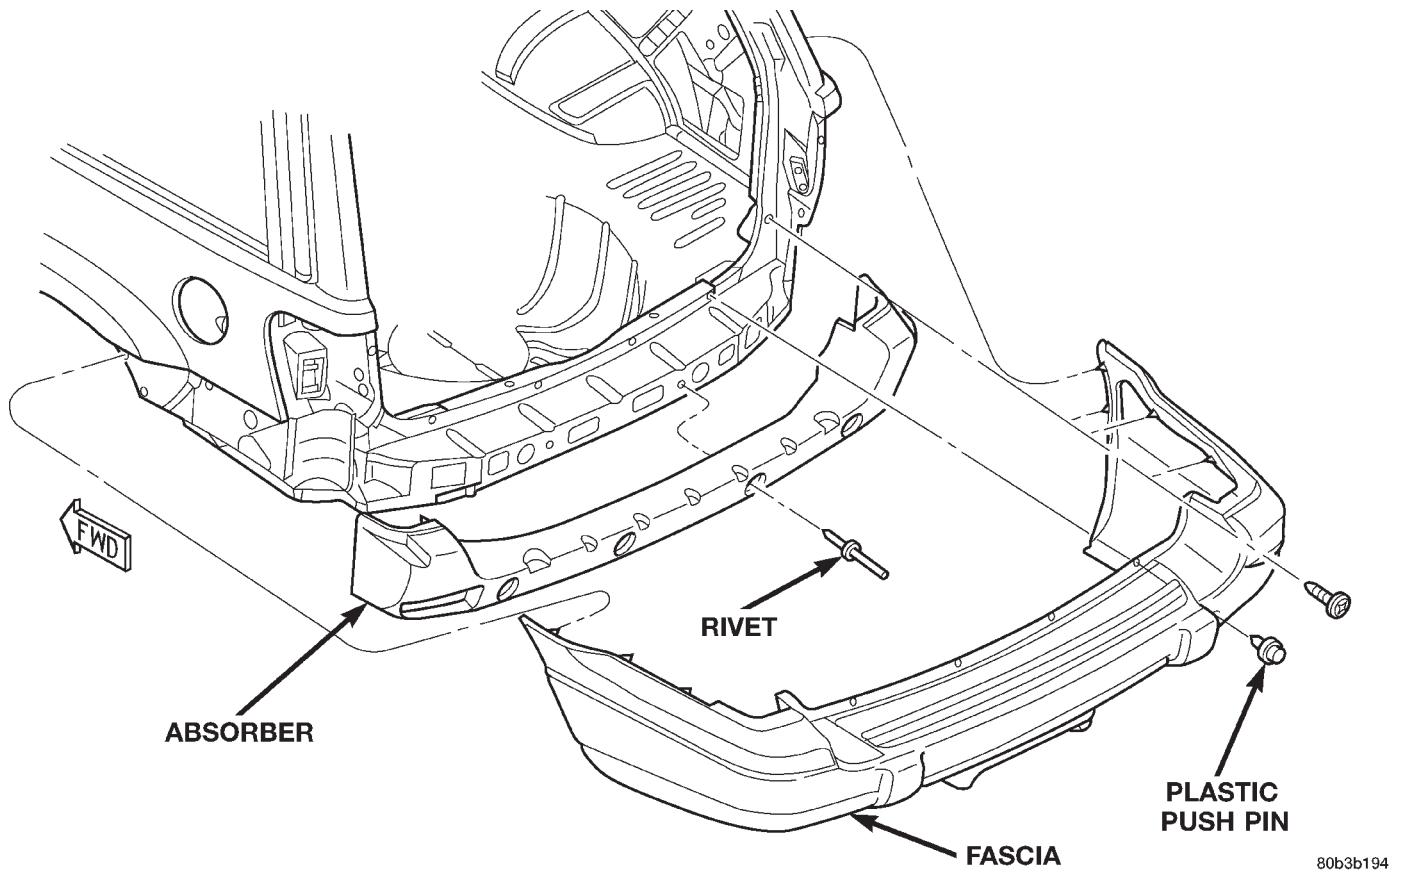
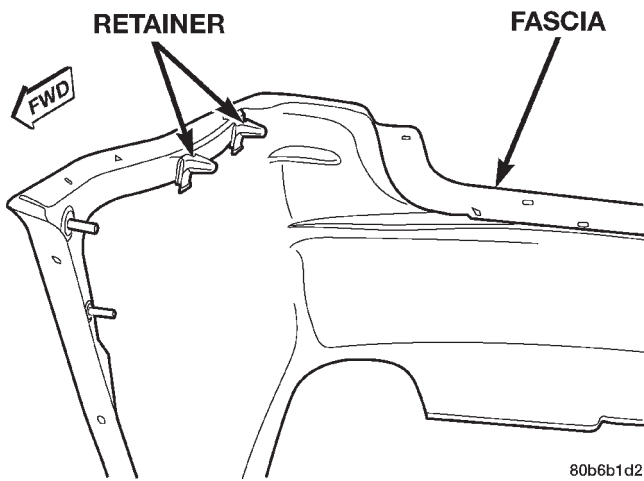

Fig. 5 Rear Fascia
Fig. 6 Rear Fascia Retainers
(6) Remove plastic push pins attaching fascia to liftgate opening (Fig. 5).
(7) Remove screws attaching fascia to liftgate opening.
(8) Remove D pillar trim and scuff plate outboard screws.
(9) Remove the rearward tie down screws and the aperture trim panel.
(10) Carefully peel back the rubber body sealer patch to access the retainer clips.
(11) Release the forward and rearward retainer clips on both sides of the fascia.
(12) Grasp forward edges of fascia and pull outward to disengage retainers attaching fascia to quarter panel (Fig. 6).
(13) Separate fascia from vehicle.
- (1) Remove rear fascia.
- (2) Remove rivets attaching absorber to rear cross-member (Fig. 5).
- (3) Separate absorber from vehicle.